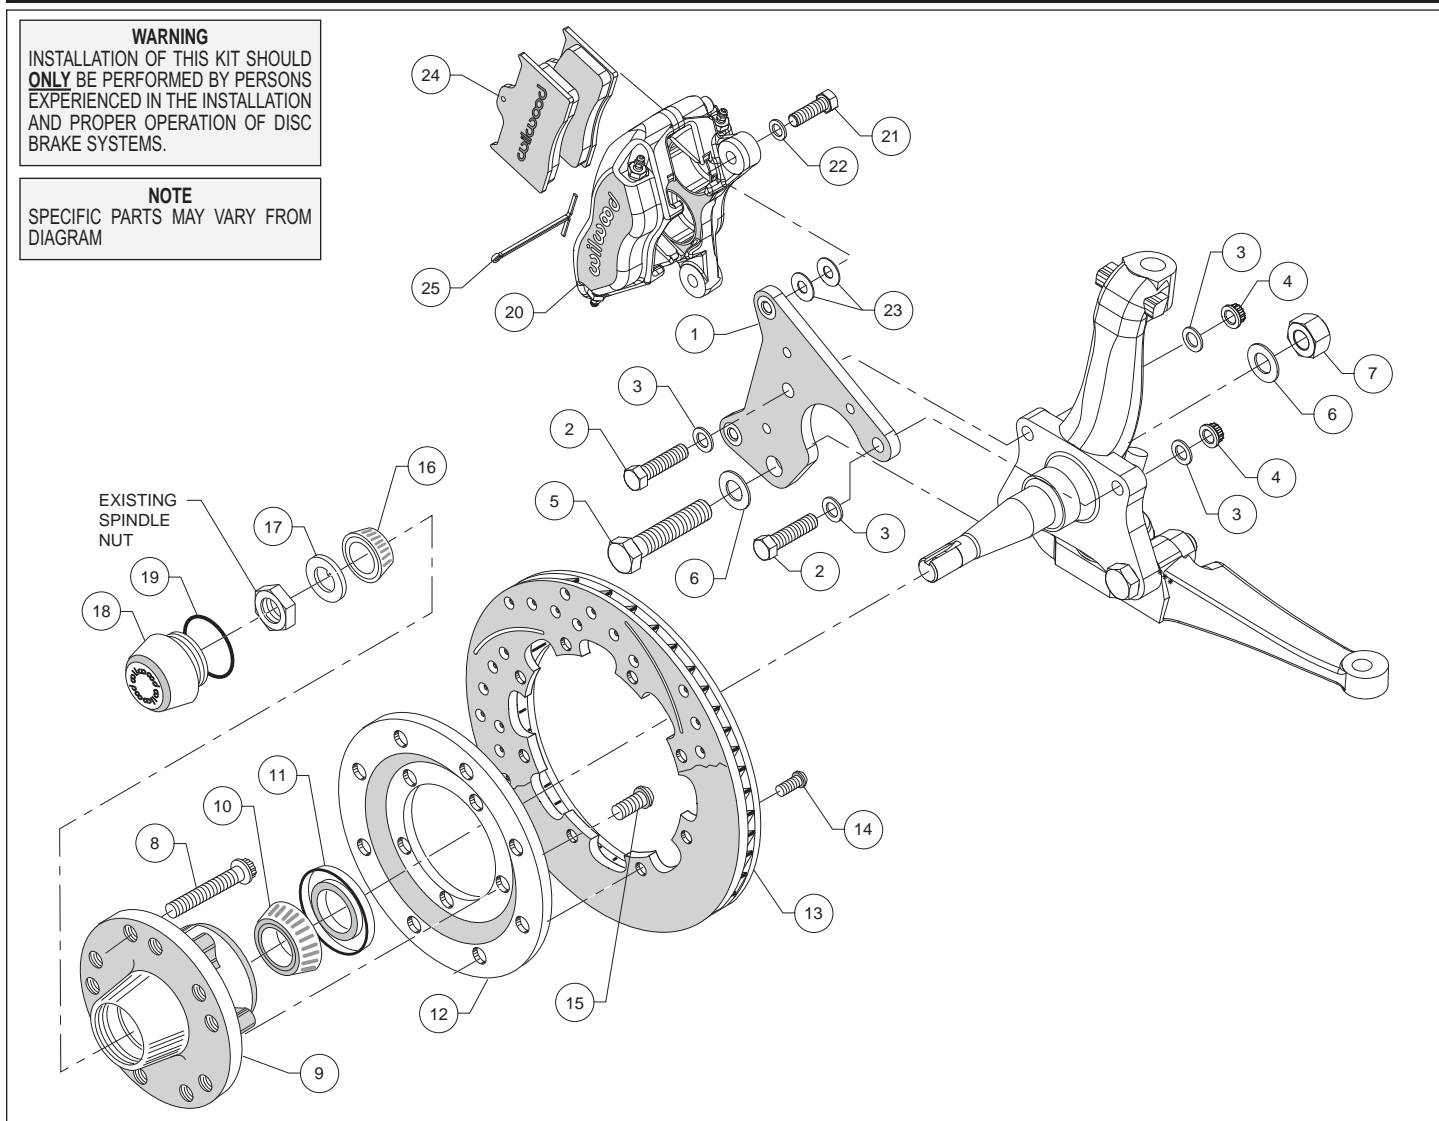
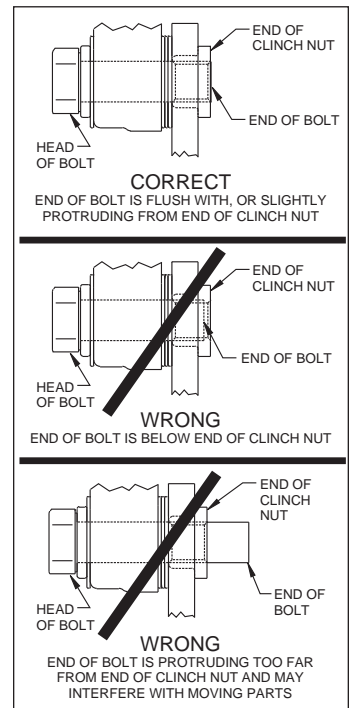

Figure 1. Typical Installation Configuration
Figure 3. Clinch Nut Engagement Diagram
Assembly Instructions (numbers in parenthesis refer to the parts list, on the preceding page and Figure 1): **CAUTION:** All mounting bolts must fully engage clinch nuts. Be sure to check that all bolts are either flush or protruding through flanged side of clinch nut after shimming, Figure 3.
- Orient the caliper mount bracket (1) as shown in Figure 1 and Photo 1, and install using bolts (2), washers (3), and nuts (4) on the top holes and bolt (5), washers (6), and nut (7) on the bottom hole, Figure 1 and Photo 1. Temporarily tighten the mounting bolts. Ensure that the flanged heads of the clinch nuts in the bracket are facing outboard, Photo 1. **NOTE:** The bracket must fit squarely against the mounting points on the spindle. Inspect for interference from casting irregularities, machining ridges, burrs, etc. Remove nuts one at a time, apply red *Loctite*® 271 to bolt threads and torque nuts (4) to 47 ft-lbs. and nut (7) to 140 ft-lbs.
- Pack the large inner bearing cone (10) with high temperature disc brake bearing grease (available from your local auto parts store) and install into the backside of the hub (9), Photo 3.
- Install the grease seal (11) by pressing into the backside of the hub (9), flush with the end of the hub, Photo 3.
- Orient the rotor (13) and the rotor adapter (12) as shown in Figure 1 and Photo 4. Attach the rotor to the adapter using bolts (14). Using an alternating sequence, apply red *Loctite*® 271 to the threads, and torque to 25 ft-lb.
- Mount the adapter/rotor assembly (12/13) to the hub (9) using bolts (15), as shown in Figure 1 and Photo 5. Using an alternating sequence, apply red *Loctite*® 271 to the threads, and torque to 45 ft-lb.
- NOTE:** Please reference the caution statement at the beginning of the assembly instructions. Mount the caliper (20) onto the caliper mounting bracket (1) using bolts (21) and washers (22), as shown in Figure 1. Initially place two .035" thick shims (23) on each bolt between the caliper and the bracket, Photo 8. Temporarily tighten the mounting bolts and view the rotor (13) through the top opening of the caliper. The rotor should be centered in the caliper, Photo 9. If not, adjust by adding or subtracting shims between the bracket and the caliper. Always use the same amount of shims on each of the two mounting bolts. **NOTE:** The end of each bolt must be flush with or slightly protruding from the head of the clinch nut, as shown in Figure 3. If necessary place spare shims between washer (22) and caliper mounting ear to achieve the proper clinch nut engagement. Once the caliper alignment and clinch nut engagement are correct, remove the bolts one at a time, apply red *Loctite*® 271 to bolt threads, and torque to 40 ft-lb.